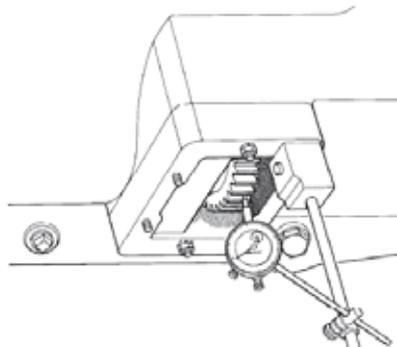

Figure 19 Checking PTO Adapter to Transmission Backlash
- c. Install a dial indicator onto the adapter housing with the dial indicator plunger resting squarely on the adapter gear (Figure 19).